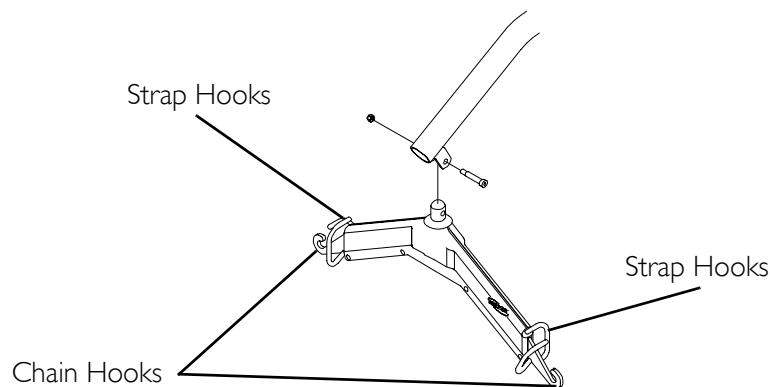
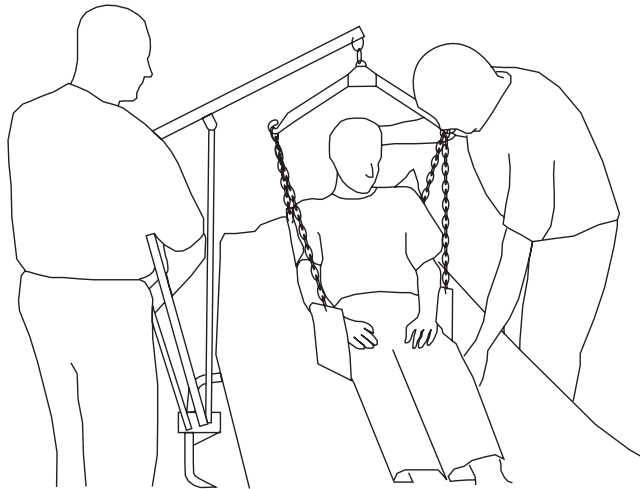
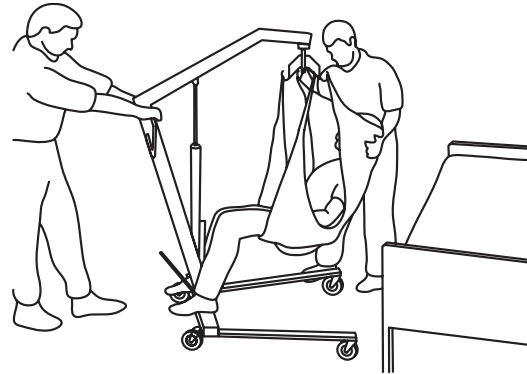

FIGURE 8.1 Lifting the Patient
FIGURE 8.2 Lifting the Patient
FIGURE 8.4 Lifting the Patient
NOTE: For this procedure, refer to FIGURE 8.1, FIGURE 8.2, FIGURE 8.3, and FIGURE 8.4.
2. Lower the patient lift for easy attachment of the sling hardware or straps (FIGURE 8.1).
5. When the patient is lifted from the bed (with the patient's head supported), he/she will be raised to a sitting position (FIGURE 8.2).
8. When moving the patient lift away from the bed, turn patient so that he/she faces assistant operating the patient lift (FIGURE 8.4).